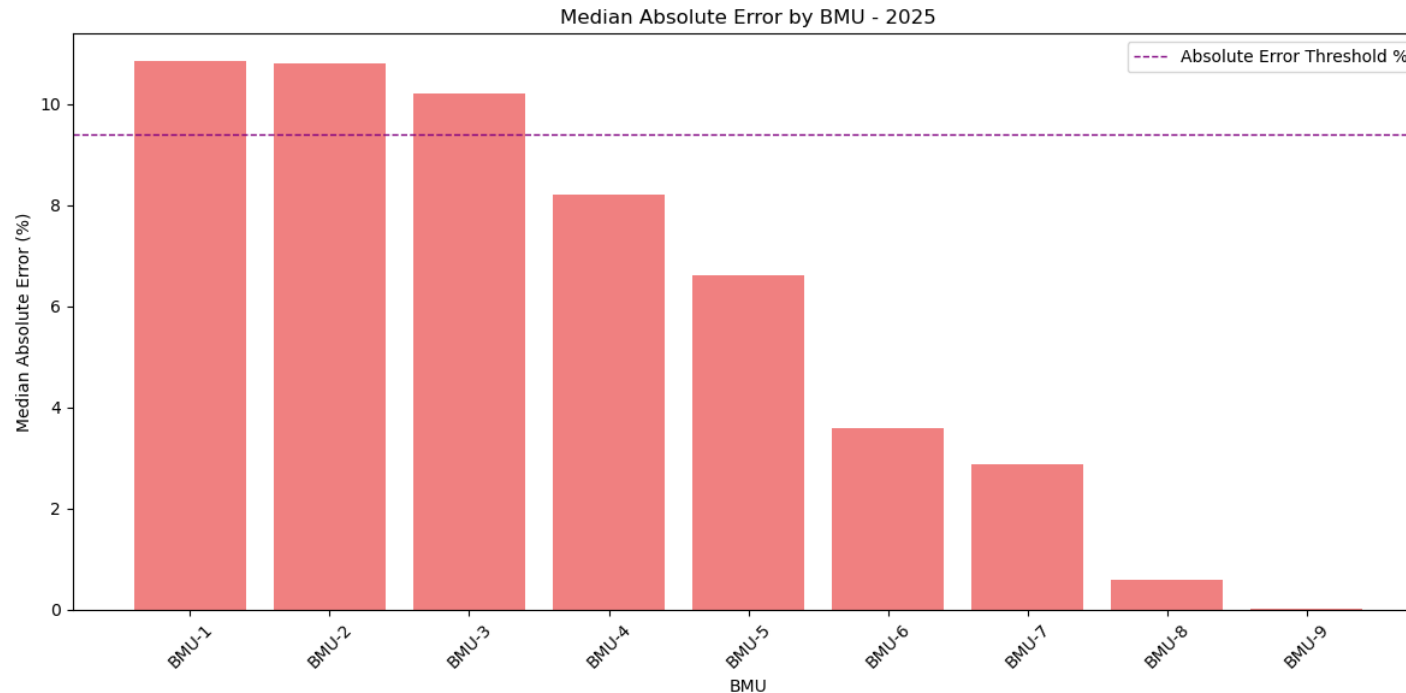

Figure 3: Illustration of median absolute error by BMU in 2025
- Figure 3 illustrates that six out of the nine units meet the established Good Industry Practice absolute error threshold for wind BMUs.